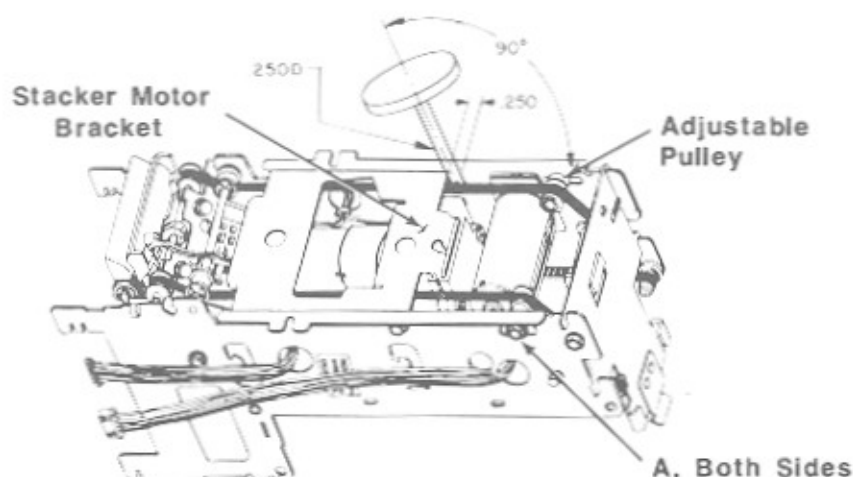

Figure 4-5. Timing Belt Tension Adjustment
Refer to *figure 4-5* for adjustment locations and the precision adjustment illustration.
If this general adjustment procedure is not satisfactory, you may use the following precision adjustment procedure (refer to figure 4-5):
3. If the tension is not correctly set, loosen the screw(s) (A) in figure 4-5 so that the pulleys move freely in their slots. Adjust the pulley(s), tighten the screw(s), and recheck the belt deflection.